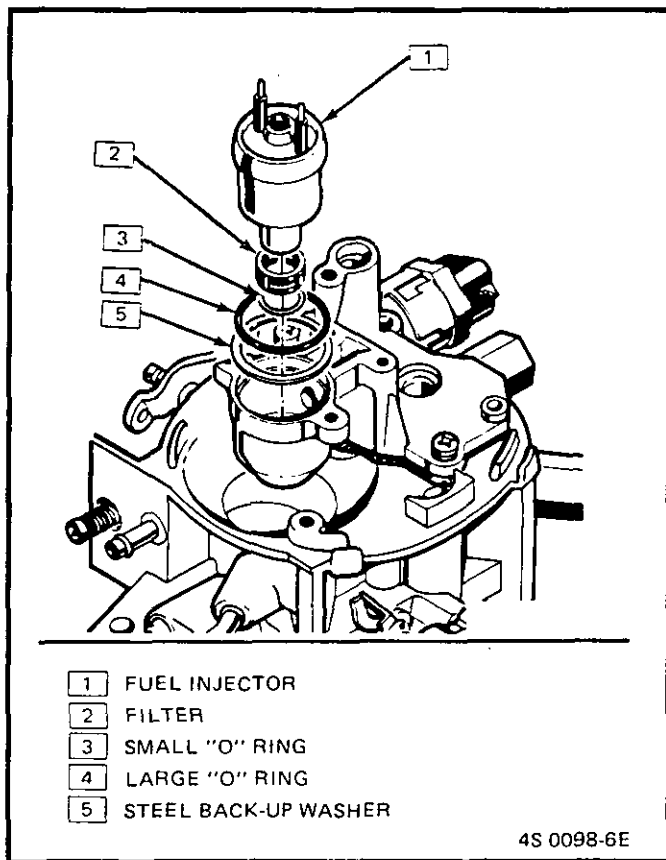

Figure C2-7 - Fuel Injector Components
7. Remove large "O" ring and steel back-up washer from the top counterbore of the fuel meter body injector cavity, (Figure C2-7).
5. Install injector in cavity, aligning raised lug on injector base with cast-in notch in the fuel meter body cavity. Push down on injector, as shown, (Figure C2-7), until it is fully seated in cavity, (Electrical terminals of injector will be approximately parallel to throttle shaft).